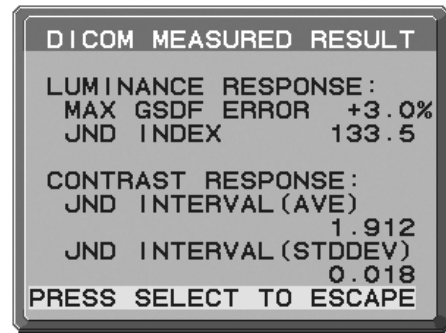

Figure 18
5. After the DICOM MEASURED RESULT message appears (**Figure 18**), press SELECT. To end the calibration mode, press "EXIT".